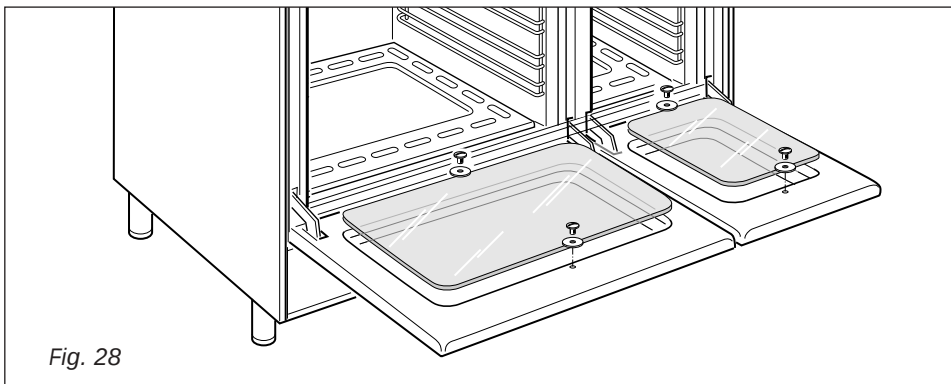

Fig. 28
- The inner glass door panel can easily be removed for cleaning by unscrewing the fixing screws (fig. 28).